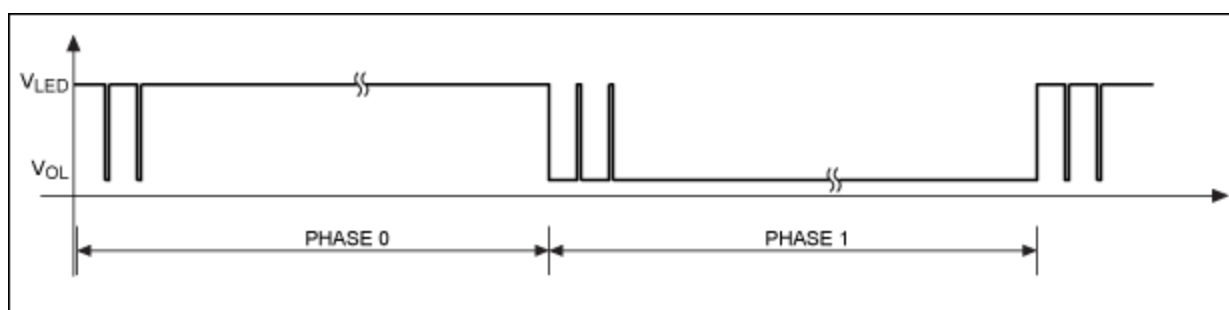

Figure 3. Blinking between phase 0 and phase 1.
**Figure 3** shows the blinking of phase 0 and phase 1 between the original and its complementary waveforms. The time durations of phase 0 and phase 1 are dependent on the action of the host controller, and usually last much longer than a single PWM period to make the blinking event noticeable.